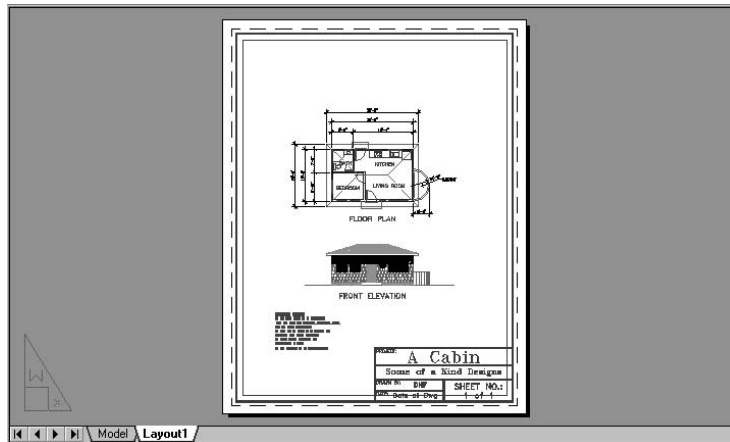

FIGURE 13.9: Layout1 of the Cabin11a drawing with the viewport enlarged to nearly the size of the border
5. Press Esc to remove the grips. The viewport is now about as large as it can be on the page (see Figure 13.9). To complete the last step, you need to adjust the scale of the cabin drawing to be $\frac{1}{8}" = 1'-0"$ and make the viewport border invisible.